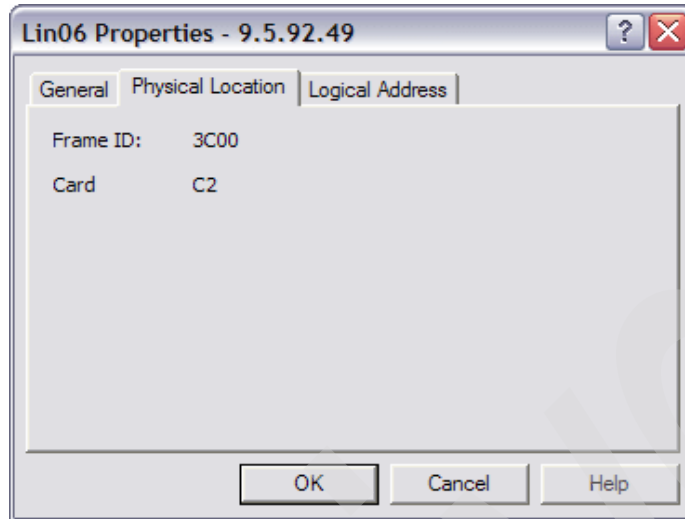

Figure 4-12 Verifying which adapter to configure
3. If there are more than one adapter, right-click each **Network Host Adapter Resource** → **Properties** → **Physical Location** and note the Frame ID and Card to determine which adapter you will configure (Figure 4-12).